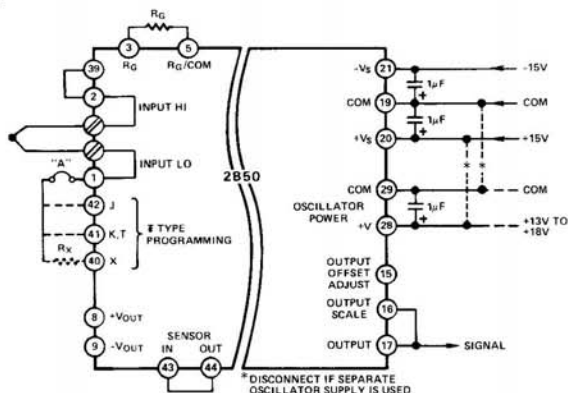

Figure 2. Basic 2B50 Application
The connections shown in Figure 2 are common to most applications using the 2B50, and, in many cases, will be all that is required.
Two sets of parallel thermocouple input connections are provided. The thermocouple input may be connected by screw terminals (Input+, Input-) or to terminal Pins 1(-) and 2(+) in cases where thermocouples are to be remotely terminated. The following sections describe a basic thermocouple application, as well as detail some optional connections to enhance performance in more demanding applications. Jumper A (Figure 2) is used to disconnect cold junction compensation circuitry during offset adjustments.
The gain of the 2B50 is set by a user-supplied resistor (R_G) connected as shown in Figure 2. Gain will normally be selected so that the maximum output of the signal source will result in a plus full scale output swing. The resistor value required is determined by the equation: $R_G = 200k\Omega / (G - 1)$.
2. Disconnect cold junction compensation circuitry by removing Jumper "A" (Figure 2).